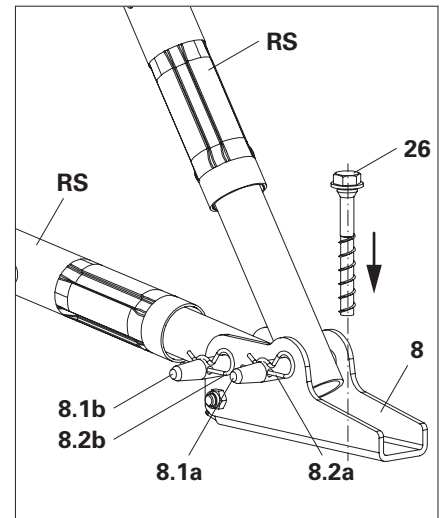

Fig. A5.01
1. Attach the lower part of the Push-Pull Prop RS – shown here as a kicker brace – to the Base Plate-3 f. RS 210-1400 (8) with bolt (8.1b) and cotter pin (8.2b).
2. Attach the lower part of the second push-pull prop – shown here as a push-pull prop – to the Base Plate-3 f. RS 210-1400 (8) with pin (8.1a) and cotter pin (8.2a).
5. Mount the Base Plate on a flat and sufficiently load-bearing substrate, e.g. using Anchor Bolt SW24 Ø14/20x130mm (26) (Fig. A5.01)